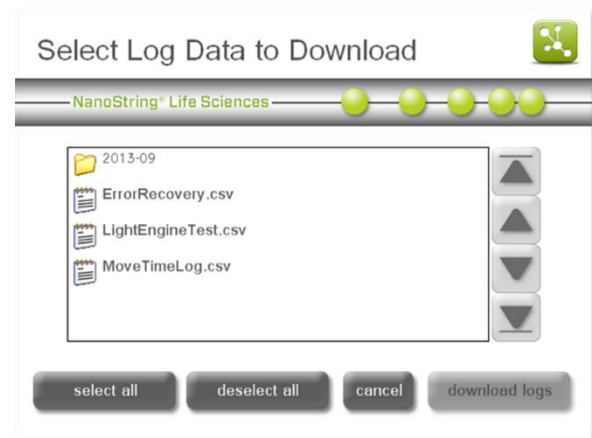

Figure 152: The 'Select Log Data to Download' screen.
3. The 'Select Log Data to Download' screen will appear (**Figure 152**). Insert the USB flash drive into the USB port on the right of the touchscreen.